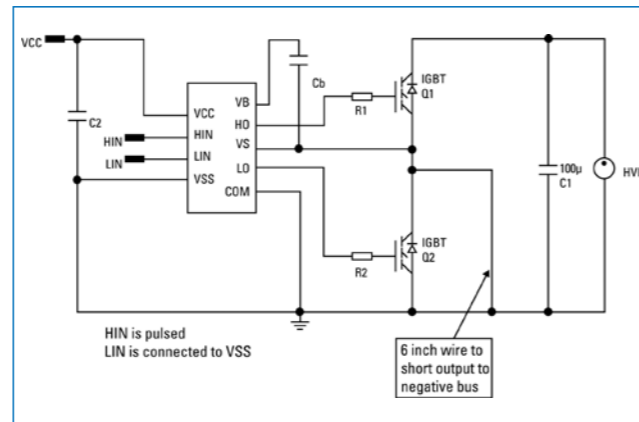

Figure 3: Short Circuit test setup for negative transient event observation.
Figures 3 and 4 show the short circuit” (SC) test setup and the experimental results comparing a standard HVJI Gate driver and the optimized IRS2607D respectively. The results show a clear advantage and fail proof behavior of the latest generation of motor drive ICs.